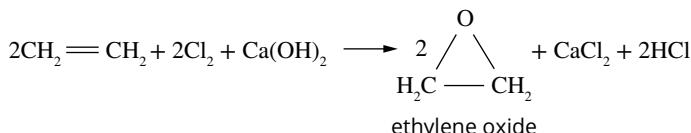

FIGURE 11.6.3 The chlorohydrin method for the production of ethylene oxide.
- Ethylene oxide has been manufactured in the past by what was known as the chlorohydrin route, as shown in Figure 11.6.3.